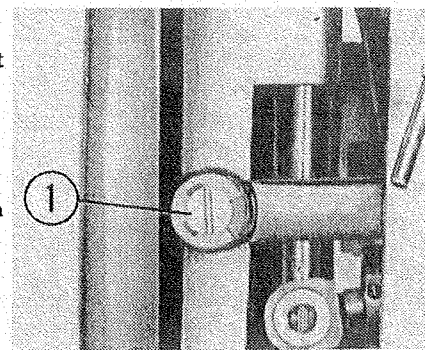

Fig. 25
If the needle does not stitch into the center of the throat plate groove at the 0 position, remove the face plate, loosen the eccentric shaft set screw and as you rotate the eccentric shaft (Fig. 25 ①) with a screw driver, adjust the correct needle stitching position.